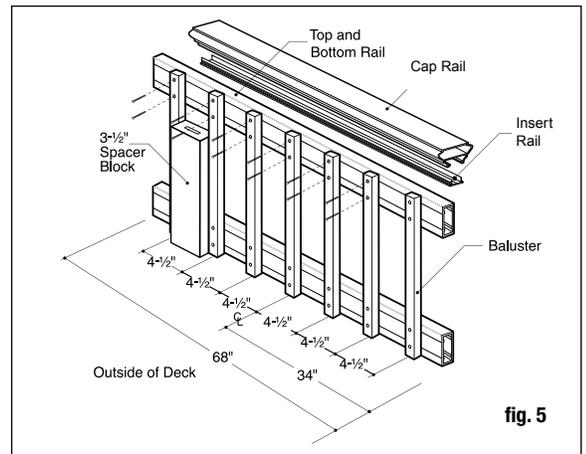

fig. 5
Glass balusters Both top and bottom rails will be installed with the pre-drilled holes facing down to prevent water from collecting in the rail. 7-1/2" on-center and equal spacing for the end spacing. Start by finding the center of the rail. Rail length $\div 2$ = center of rail. Start the first glass baluster on-center of the center line. Mark every 7-1/2" from the center line to each end. This will leave the end spacing 4" or less on both ends and require 1.5 glass balusters per foot. If installing using connectors, attach connectors to both rails on marked locations. Tip: If face-mounting to rail, use a piece of 2x4 (3-1/2" actual) as a spacer block for the spacing between balusters (fig. 5).
Step 12 Traditional, Baroque, Arc balusters and Face-Mount Glass balusters Start the first baluster on-center of the center of the rail and work out to each end. Using the baluster as a guide, drill 9/64" holes in the rails at each baluster location. Use a 2x4 as a spacer block to space the next baluster. Working toward the ends, drill and attach each baluster with the screws provided (fig. 5).